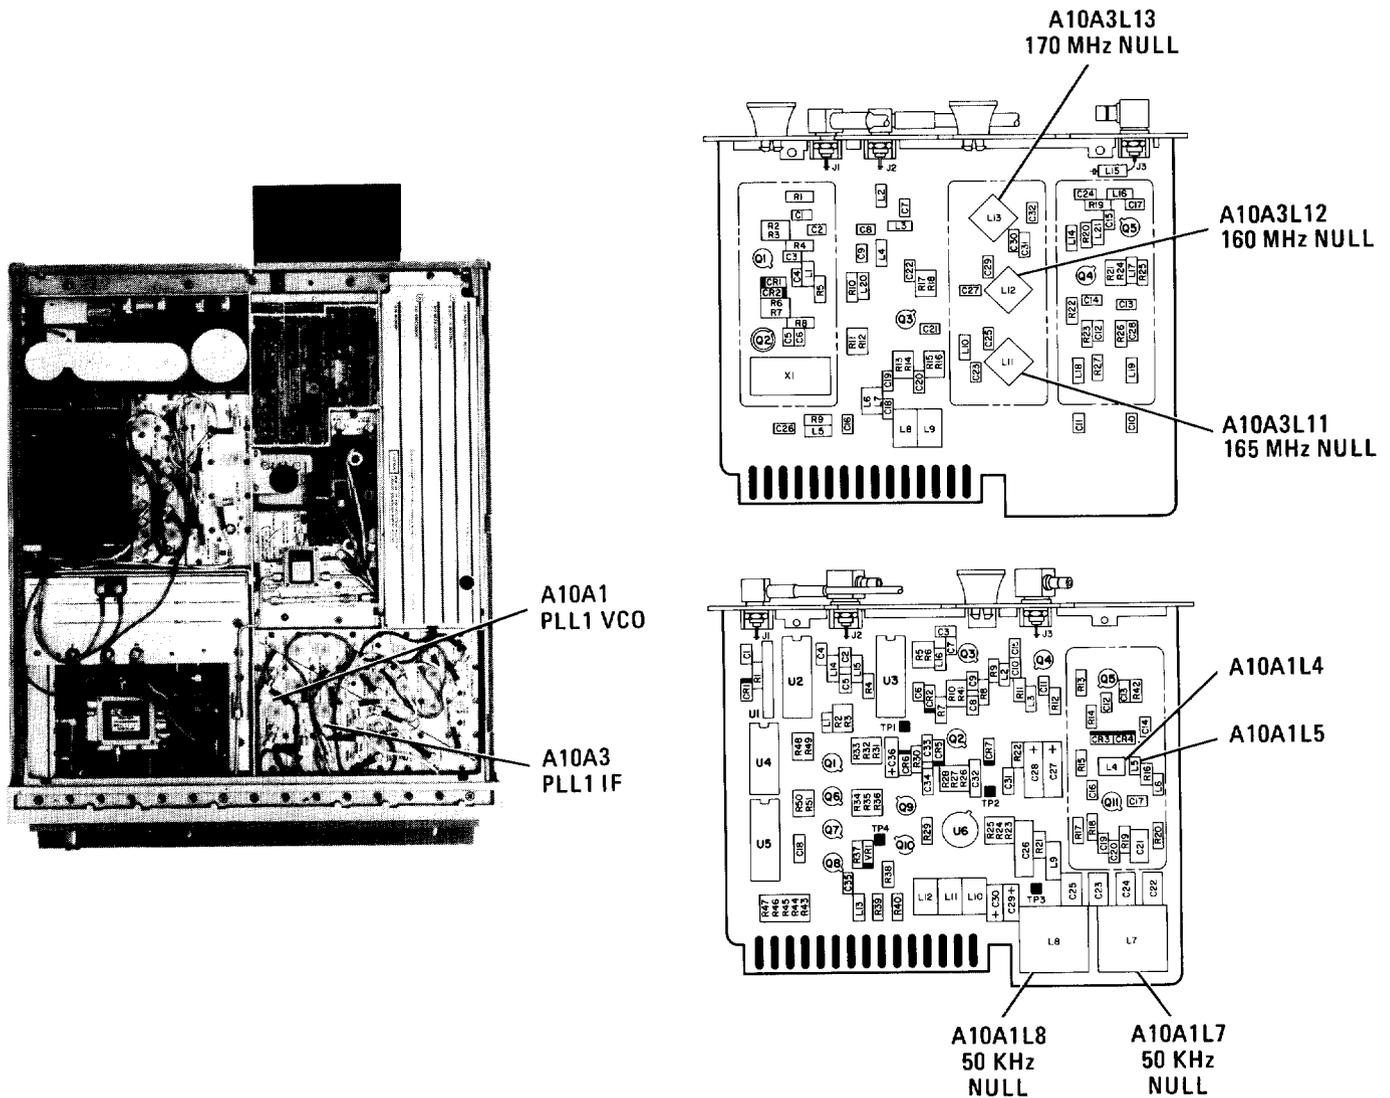

FIGURE 56. LOCATION OF PLL1 ADJUSTMENTS
8. Adjust A10A1L7 and A10A1L8 50 kHz NULL adjustments to null the 50 kHz signal displayed on the HP 8557A Spectrum Analyzer. Refer to Figure 56 for location of adjustments.